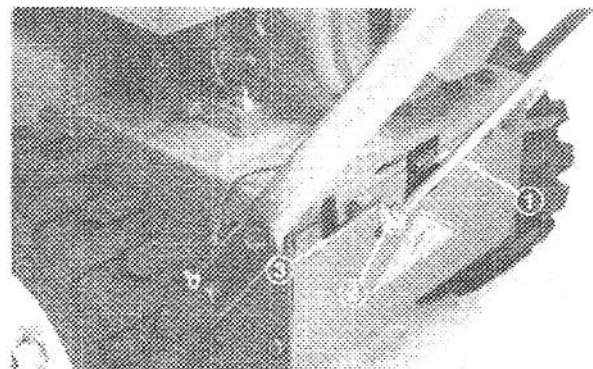

Figure 4
2. Insert traction rod through loop in lower traction rod (Fig. 4).